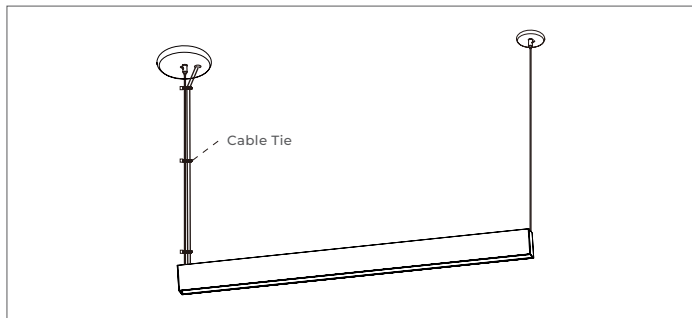

FIGURE 3-6
6) Use the cable tie to fix the aircraft cable and power cord together. (Figure 3-6)